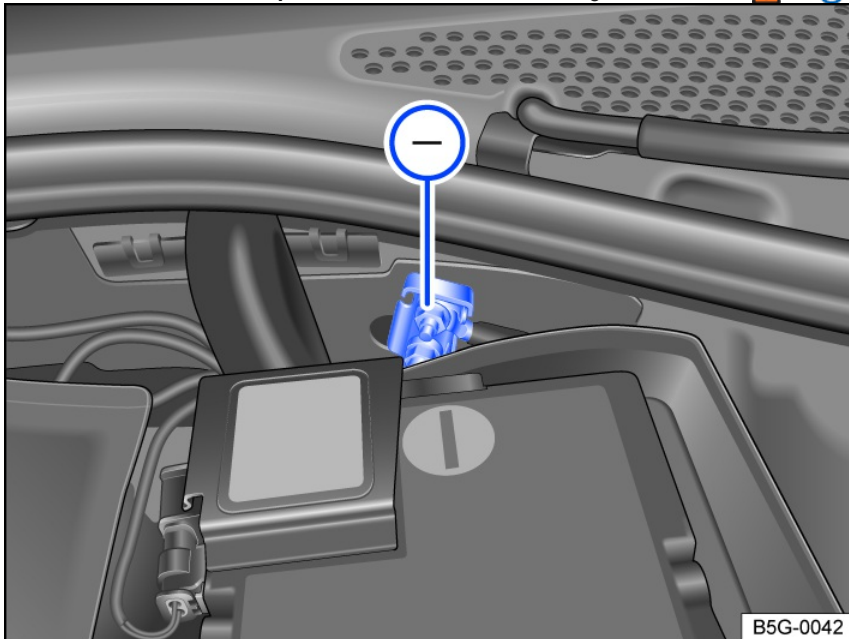

Fig. 142 In the engine compartment: jump-start point (negative connection).
- The jump-start point (negative terminal) is for connecting the *black* jumper cable fig. 142.